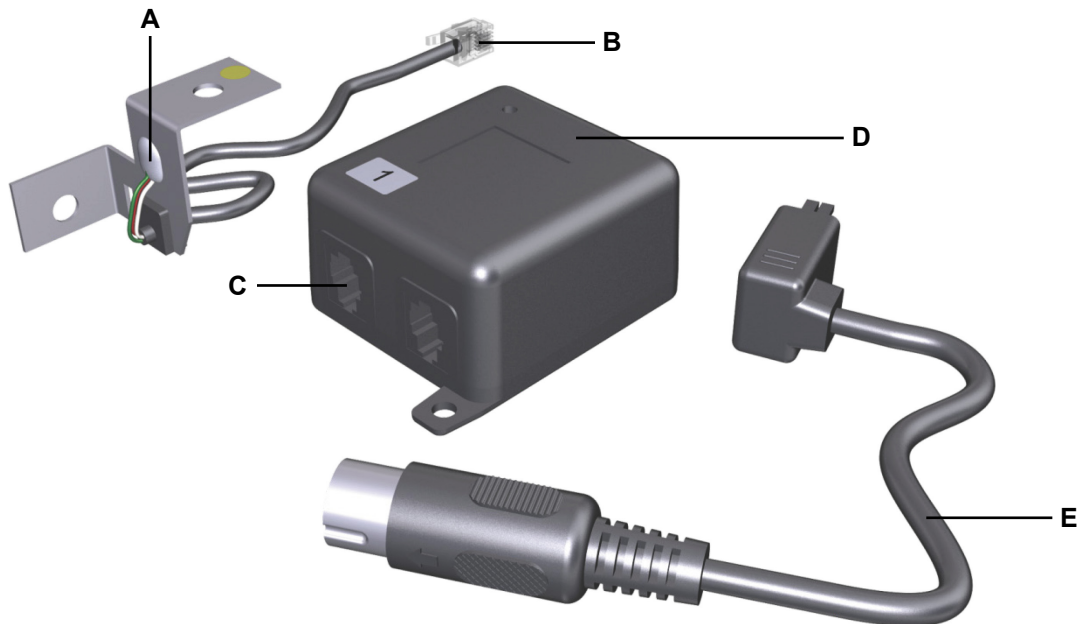

Figure 43 Sensor unit
- The sensor is attached to both the table frame and the tabletop. The contact point with the tabletop is marked with a yellow dot, as shown in Figure 43.